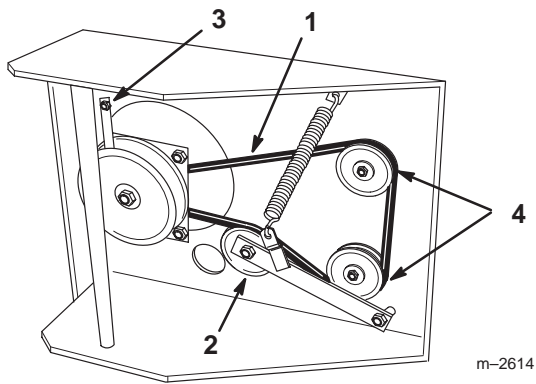

Figure 33
- Remove left front engine mounting bolt securing clutch retainer to frame (Fig. 33). Unhook retainer from clutch and remove retainer.